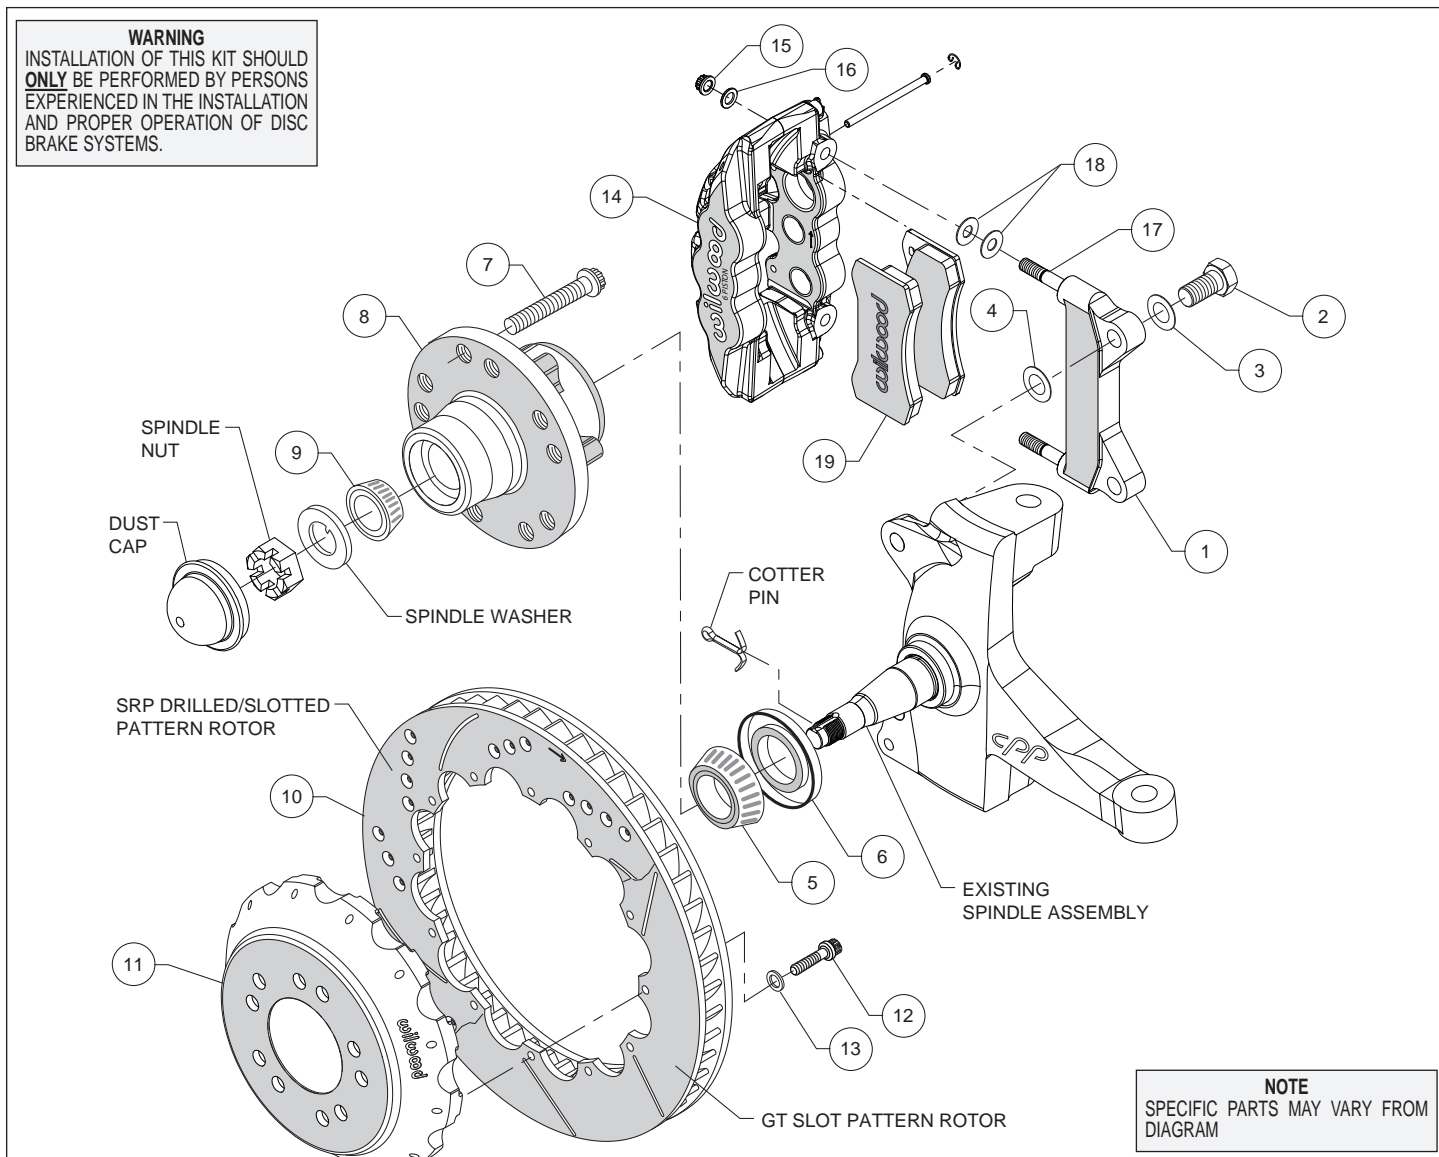
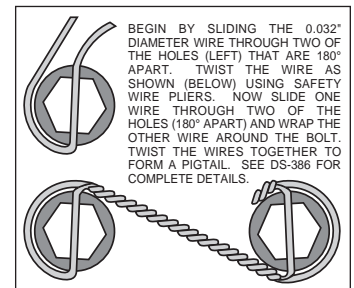

Figure 1. Typical Installation Configuration
Figure 3. Safety Wire Diagram
Assembly Instructions (numbers in parenthesis refer to the parts list and Figure 1 on the preceding pages):
- The caliper mount bracket (1) should initially be installed with clean, dry threads on the mounting bolts. Orient the bracket, as shown in Figure 1, and Photo 1, and install using bolt (2) and washer (3). Initially place one .024" thick shim (4) on each bolt between the bracket and upright, Figure 1. Temporarily tighten the mounting bolts. **NOTE: The bracket must fit squarely against the mount bosses on the upright.** Inspect for interference from casting irregularities, machining ridges, burrs, etc. Later, after the caliper alignment has been checked, the mount bolts will be secured using red *Loctite*® 271.
- Install wheel studs (7) into the hub (8), Photo 2. Torque to 77 ft-lb. **NOTE: There are two five lug patterns in the hub (5 x 4.75 and 5 x 5.00).** Ensure the correct hub stud pattern is being used to fit the wheel application.
- Pack the large inner bearing cone (5) with high temperature disc brake bearing grease (available from your local auto parts store) and install into the backside of the hub (8), Photo 3.
- Install the grease seal (6) by pressing into the backside of the hub (8), flush with the end of the hub, Photo 4.
- Orient the rotor (10) and the hat (11) as shown in Figure 1 and Photo 5. Attach rotor to hat using bolts (12) and washers (13). Using an alternating sequence, apply red *Loctite*® 271 to the threads, and torque to 155 **in-lbs**. For an added measure of security, the bolts may be safety wired using standard 0.032 inch diameter stainless steel safety wire as shown in Figure 3. Refer to Wilwood's data sheet DS-386 (available at www.wilwood.com/Pdf/DataSheets/ds386.pdf) for complete safety wire installation instructions.
- Pack the small outer bearing cone (9) with high temperature disc brake bearing grease and install into hub (8). Slide the hub assembly onto the spindle. Secure using spindle washer and spindle nut, Photo 6. Adjust bearings per OEM specifications. Install a new cotter pin.
- Press the dust cap into the hub (8).
- Slide the hat/rotor assembly (10/11) onto the hub (8). **NOTE: The hat must fit flush against the hub face or excessive rotor run out may result.**
- NOTE: This kit contains distinct right and left hand calipers that must be mounted in a specific direction, as described below.** Lubricate the caliper mounting studs (17) with lightweight oil. Initially place two .030" thick shims (18) on each stud as shown in Figure 1 and Photo 7. Mount the caliper (14) onto the bracket
(1) using lock nuts (15) and washers (16), Figure 1. Ensure that the caliper is mounted so that the largest pistons are at the rotor exit end of the caliper, in relation to the direction of rotor rotation. Temporarily tighten the lock nuts and view the rotor through the top opening of the caliper. The rotor should be centered in the caliper, Photo 8. If not, adjust by adding or subtracting shims (4) between the bracket and the upright. Always use the same amount of shims on each of the two mounting bolts. Once the caliper alignment is correct, remove the bracket mounting bolts one at a time, apply red *Loctite*® 271 to the threads, and torque to 120 ft-lbs.
- Remove the two pad retaining pins from the caliper (14) by carefully popping out the pin retaining clips and sliding out the pins. Insert the brake pads (19) into the caliper from the bottom, Figure 1 and Photo 9. With the friction material facing the rotor, secure the brake pads in place with the pad retaining pins and clips, Photo 10. Reinstall the caliper onto the caliper mounting bracket and temporarily tighten the lock nuts. Check that the top of the brake pad is flush with the outside diameter of the rotor, Photo 11. If not, adjust by adding or subtracting shims (18) between the caliper and the bracket. After the caliper pad height is set, torque the caliper lock nuts (15) to 47 ft-lb.